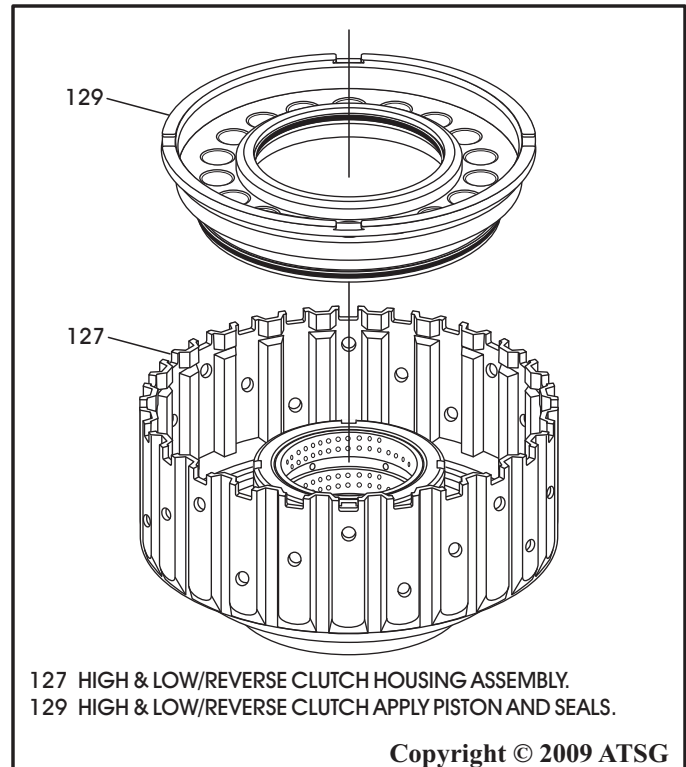

Figure 133
6. Install the completed piston into the high and low/reverse clutch housing with a rotating motion, as shown in Figure 133.